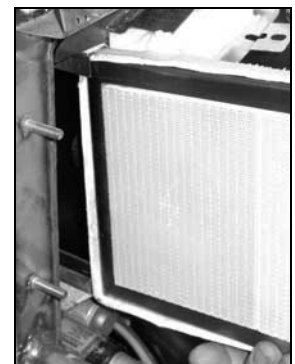

Figure 3
17. Carefully slide the replacement burner into the rails starting at the top and lifting slightly up on the bottom (see Figure 3). Ensure that the insulation is not torn or damaged.